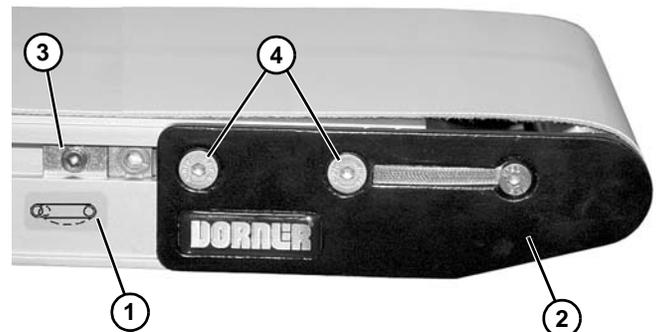

Figure 46
5. On tension end of the conveyor, identified with  a label (**Figure 46, item 1**), push in head plate assembly (**Figure 46, item 2**):
- a. On both sides of conveyor, loosen and move cam tracking assemblies (**Figure 46, item 3**) (if equipped) away from head plates.
- b. Loosen fastening screws (**Figure 46, item 4**) and push head plate assembly inward.